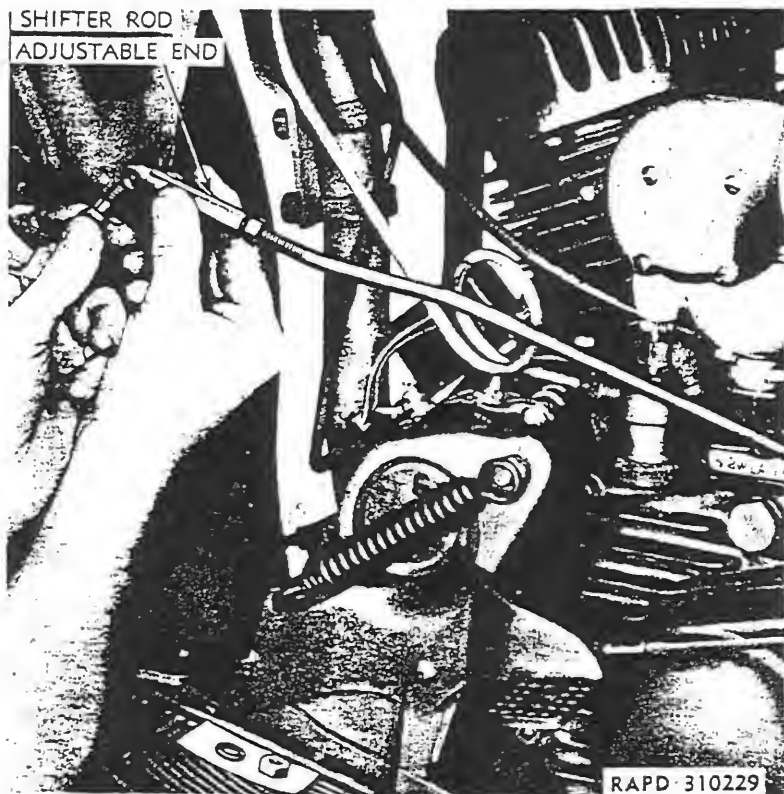

Figure 32—Adjusting Gear Shifter Rod
54. CONTROL LINKAGE (fig. 32).
c. Adjusting Gear Shifter Control Linkage (fig. 32).
- (1) Set hand lever in "N" (neutral) position in shifter guide.
- (2) Remove nut and bolt to disconnect shifter rod from hand lever.
- (3) With slight backward and forward movement of shifter rod, carefully "feel" transmission lever into exact position where shifter cam spring plunger (inside transmission) seats fully in cam-locating notch.
- (4) Next, see that hand lever is in exact "N" (neutral) position in tank shifter guide.